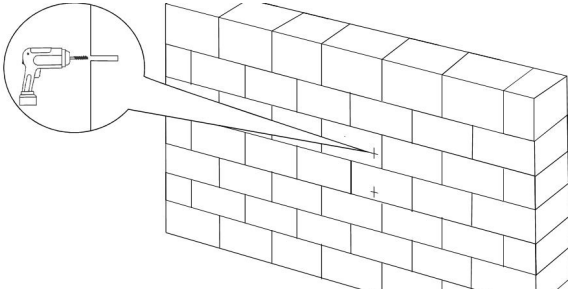

Fig. 3: Assembly
Step 2: Mark and drill 2 holes that correspond to the mounting holes in the wall bracket (Fig. 3).